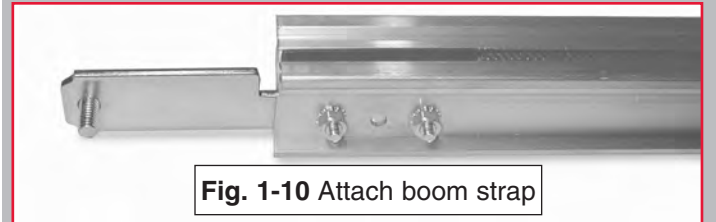

Fig. 1-10 Attach boom strap
10. Attach boom strap (Fig. 1-10).